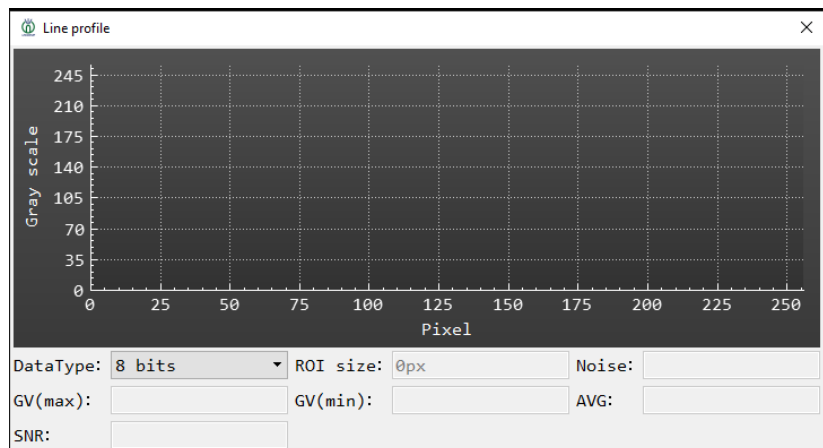

Fig. V-60 Histogram Statistics
- 1) Click "Tool (T)" ->"Histogram - SNR" in the menu bar to enter the Histogram - SNR interface (Fig. V-60).
Fig. V-60 shows the results of pixel analysis and statistics in the chosen area of the current rectangular mark. The results in the statistical information are described as follows: